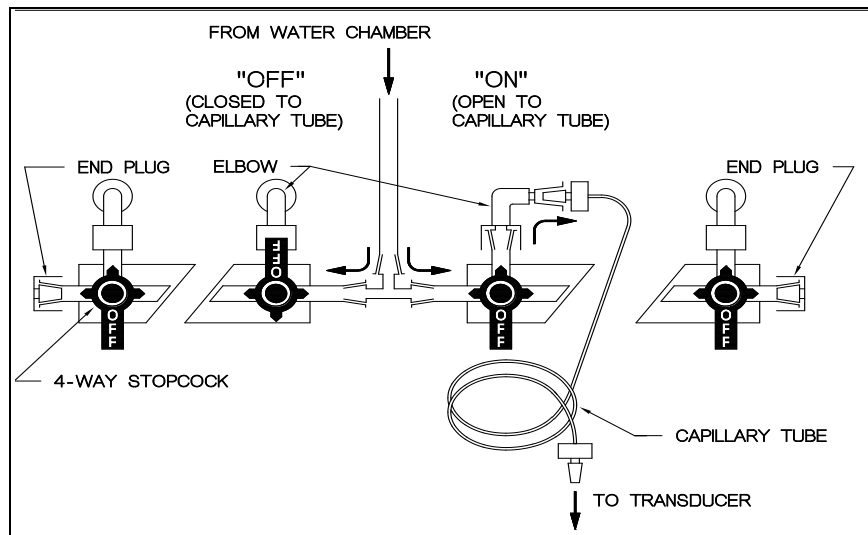

Figure 15: Stopcock Manifold
- Turn ON all the manifold stopcocks. (The off-handle on each manifold stopcock should point downward as shown in Figure 15).
- Turn ON (Figure 15, Section 4.4).
- First, check that the 4-way stopcocks on the stopcock manifold and on top of the transducers such that they are in the fully open position (Figure 15, Section 4.4; Figure 9, Section 3.5).